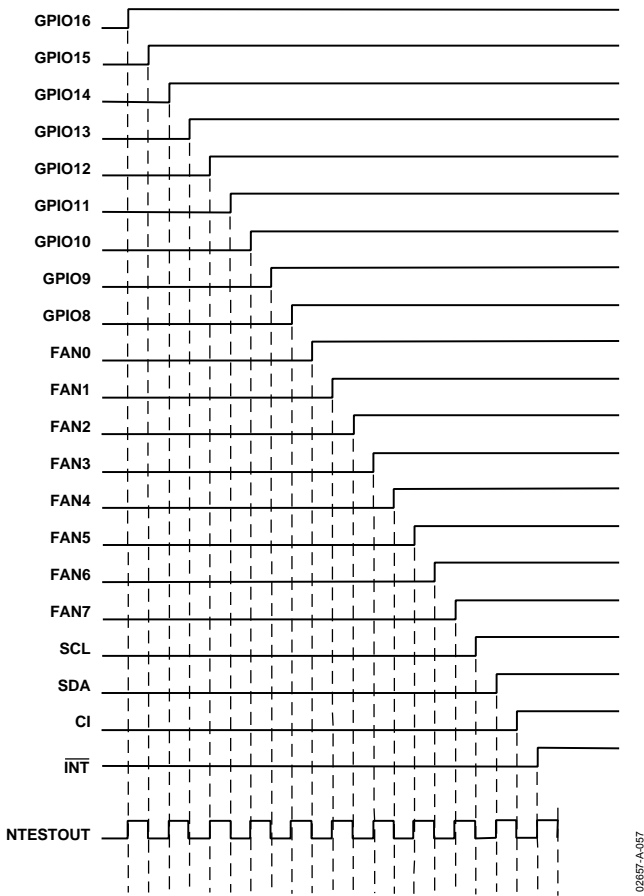

Figure 57. NAND Tree Test Taking Inputs High in Turn
1. Start with all inputs low and take them high in turn, starting with the input nearest to NTEST\_OUT (GPIO16/ $\overline{\text{THERM}}$ ) and working back up the tree to the input furthest from NTEST\_OUT ( $\overline{\text{INT}}$ ). This should give the characteristic output pattern shown in Figure 57, with NTESTOUT toggling each time an input is taken high.